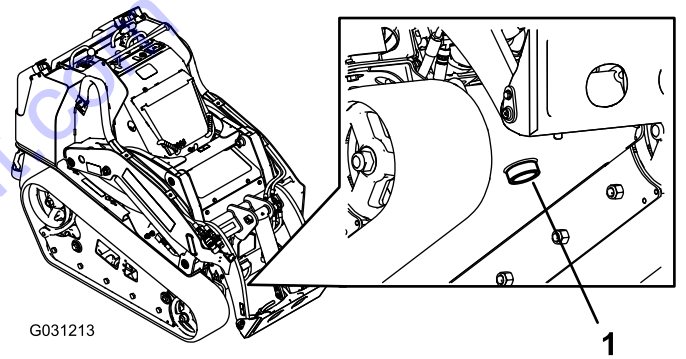

Figure 74
7. Place a large drain pan capable of holding 57 L (15 US gallons) under the drain plug on the front of the machine (Figure 74).
8. Remove the drain plug and allow the oil to drain into the pan (Figure 74).